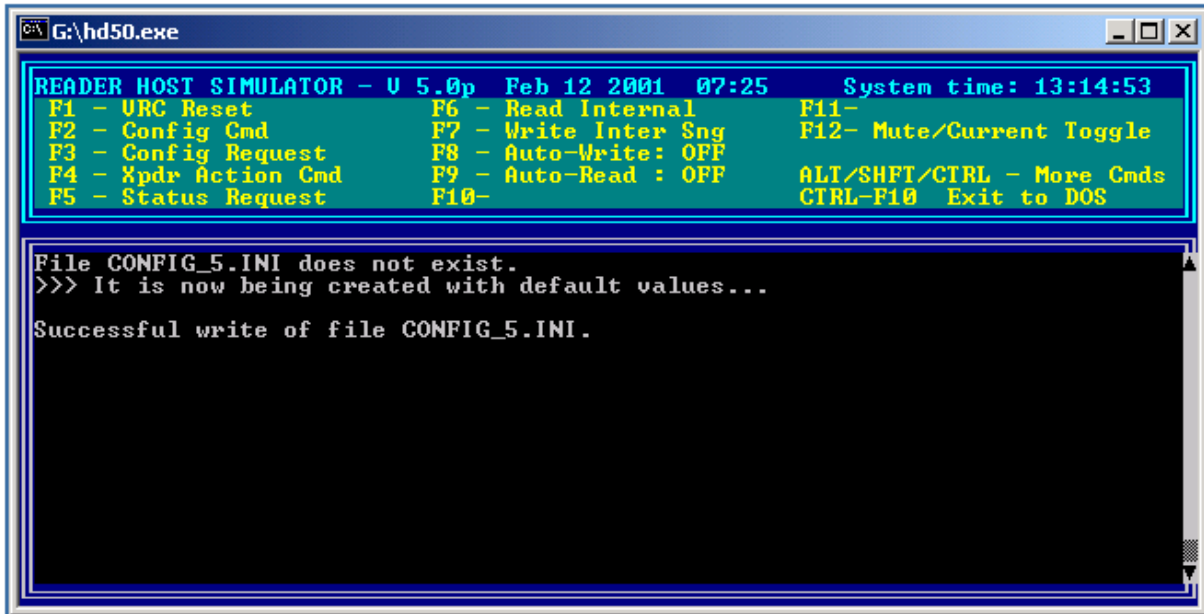

Figure 3-HD Version 5.0 Startup Screen
- Run HD 5.0 (HD50.exe) on the PC. Figure 3 is a screenshot of the HD Version 5.0 application upon startup.